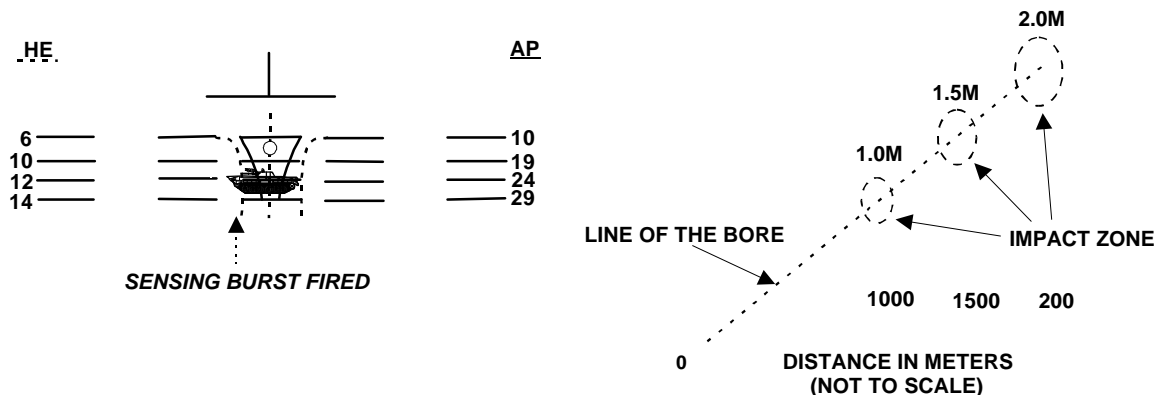

Figure 3-7. 3-Round Burst Against Point Target with Dispersion Factor.
- f. The gunner fires a burst and then announces his observation and adjustment or observation and BOT. (See fig. 3-7.) The gunner then fires another 3-round burst, continuing until the vehicle commander commands *CEASE FIRE*.